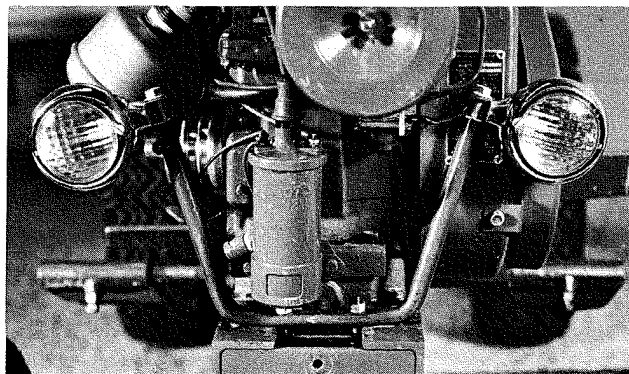

Figure 3
1. Remove the hood. Swing the head lights around to the outside of the U shaped mounting bracket before installing. (See Figure 3.) Place bracket, #5489, between frame angles (Figure 3) and set head light bracket over the two bolts. Fasten with two nuts. Replace hood and adjust before securing. Wrap wiring around the bracket and run along belt shield securing with clip #3023.